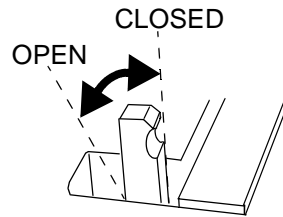

Figure 3-4
- Step 1. Pull open and hold the pin bar release lever (see Figure 3-4).